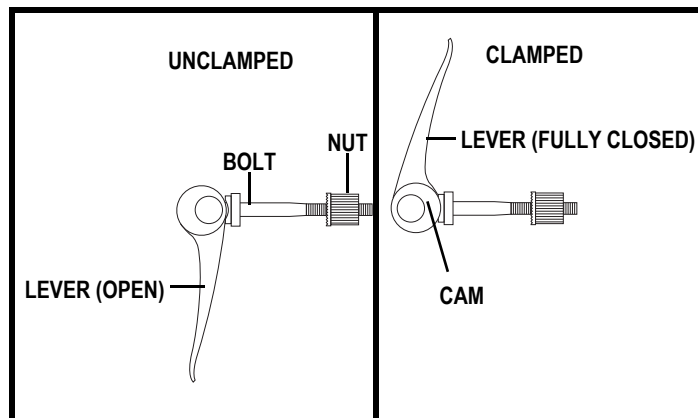

Figure 14. Quick Release Fastener Operation
2. Tighten and clamp the quick-release fastener. See figure 14.
Quick Release Fasteners: The seat is secured to the seat post with a quick release fastener. The quick release fastener consists of a bolt, a lever and a nut. See figure 14. The lever has a cam on the end that allows it to clamp into place. The quick release fastener has two states: clamped and unclamped. When the lever is open, the quick release fastener is unclamped. When the lever is closed, the quick release fastener is clamped.
8. Tighten and clamp the quick release fastener. See figure 14.